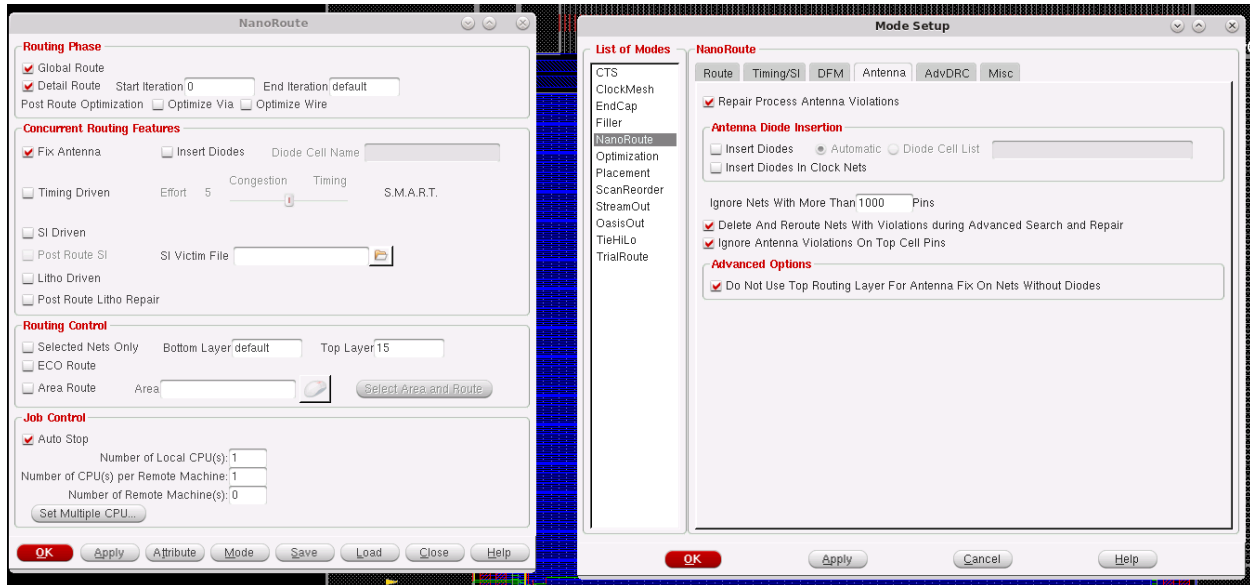

Figure 3 Antenna setting in Innovus GUI
highest layer would be constructed at the latest and so the charge can be easily discharged through diffusion area. This solution is shown in Figure 3(a).
- Add vias near the gate(s), to connect the gate to the highest layer used. This adds more vias but involves fewer changes to the rest of the net. This is shown in Figure 3(b).
- Add diode(s) to the net, as shown in Figure 3(c). This diode should be connected to metal reversed biased so if voltage gets too high it saves gate from getting damage.